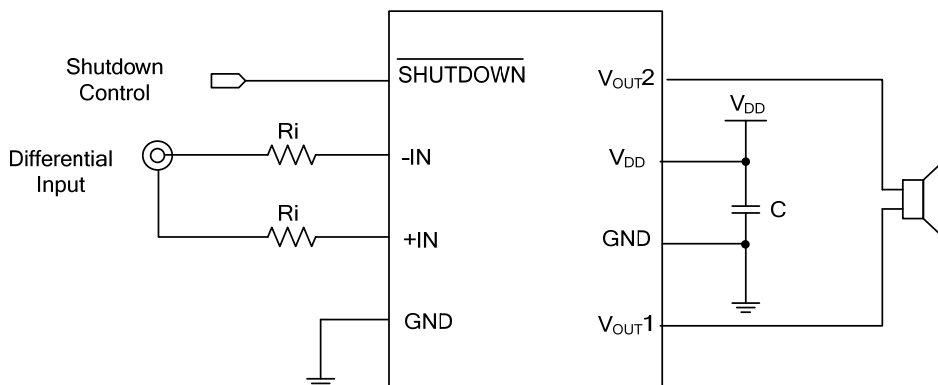

Fig. 3 Differential Input Configuration
The **M4670** can be used in many different circuit configurations. The most typical is the DC-coupled, differential input configuration shown in Fig. 3. Equation(2) above is used to determine the value of the R_i resistors for a desired gain.